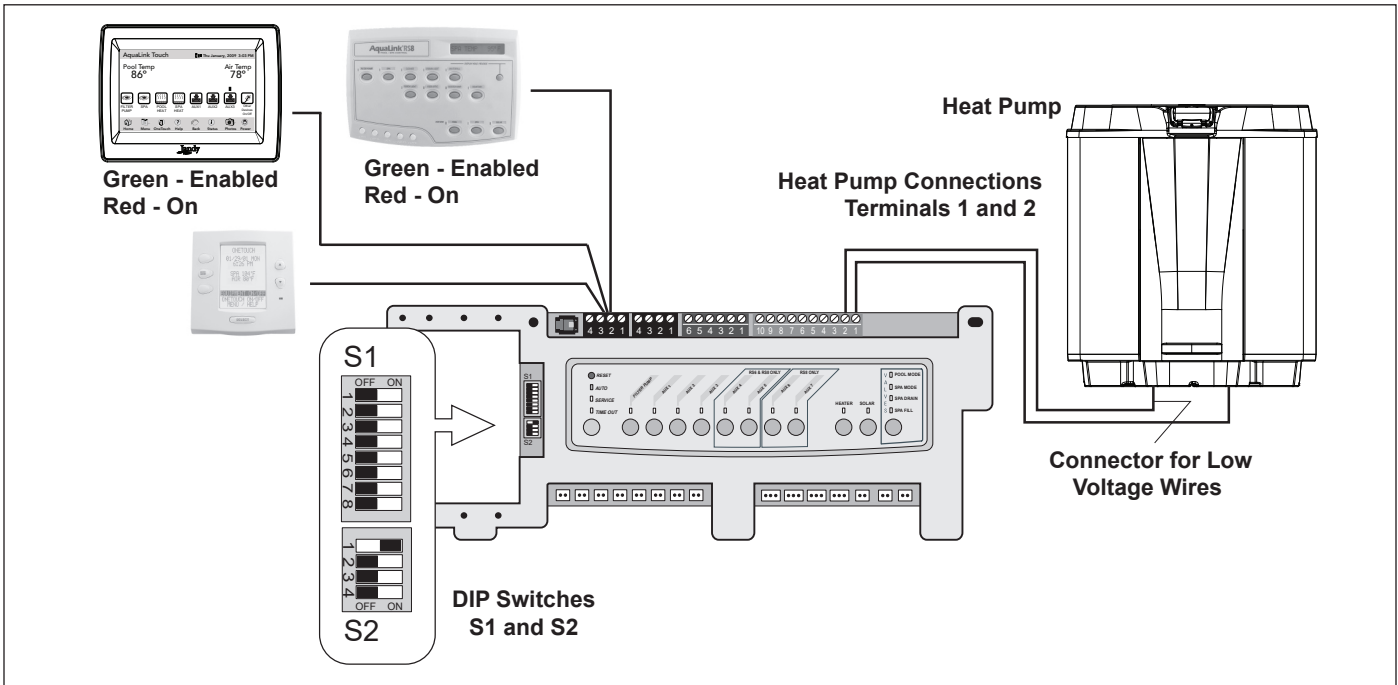

Figure 11. AquaLink RS to Jandy JRT Heat Pump - T-Stat (2 wire) connection
- Connect two (2) wires to the AquaLink RS green 10-pin terminals 1 and 2.
- Put DIP S2-1 (pin #1 of the 4 position DIP switch) into the ON position (see Figure 11).